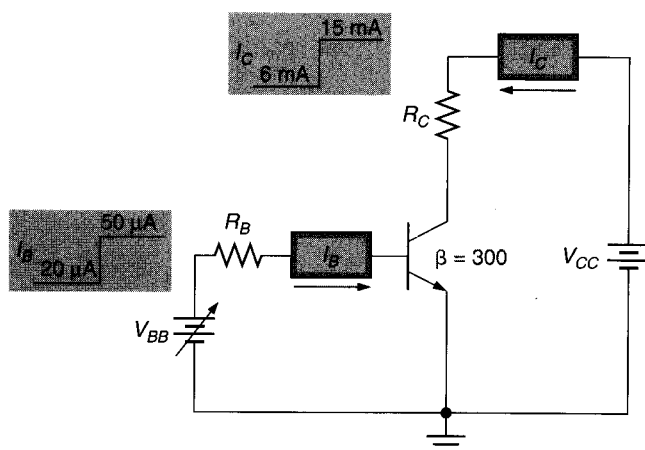

FIGURE 6.11
Determine the values of collector current for the values of base current shown in Figure 6.11.
**Solution:** The base current in Figure 6.11 has an initial value of  $20\ \mu\text{A}$ . The beta rating of the component is 300. Using these values, the initial value of collector current is found as